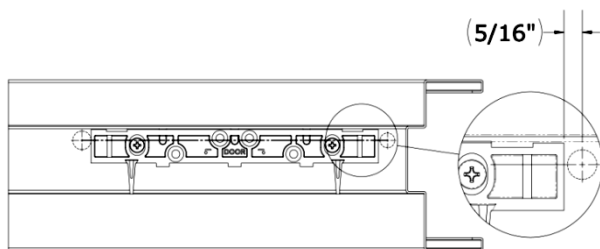

Figure 11. Position of Wire Feed-Through Holes
5. ENSURE these holes are toward the rear edge of the mounting bracket and adjacent to the end of the bracket (see Figure 11, "Position of Wire Feed-Through Holes").